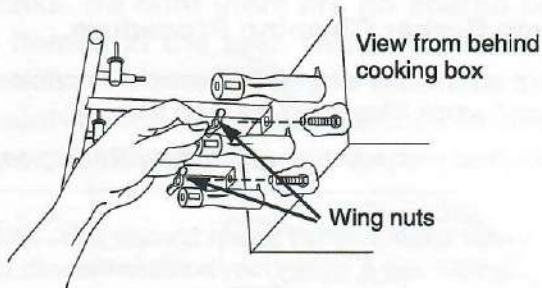

Figure 14
- e) Remove the manifold bracket and unscrew the two wing nuts that hold the manifold to the cooking box. Pull the manifold and valve assembly out of the burners and carefully set it down. Figure 14.